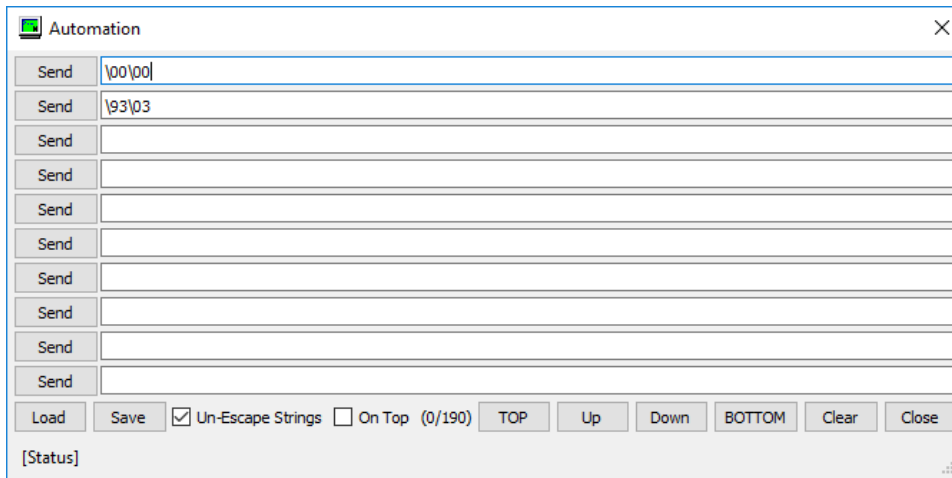

Figure 12: Automation dialogue for entering DTM commands
4. In the following screen, modify the fields as shown in Figure 12.